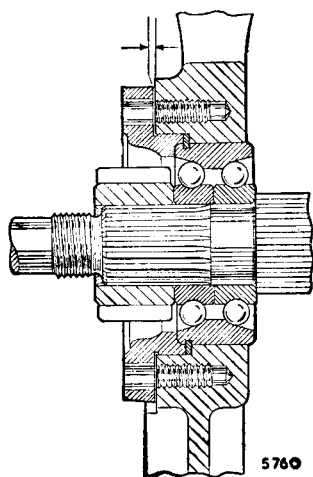

Fig. F.5
30. Refit the third motion shaft bearing retainer without any shims, lightly tighten the bolts and measure the gap, see Fig. F.5. Fit the shims required (see chart), ensure that they are fitted under the layshaft and reverse shaft locking plate, and finally tighten the bolts and turn over the tab washers.
31. Refer to item (10). Insert the oil suction pipe into the oil strainer assembly, and tighten first the external flange securing bolts and then the bracket retaining bolts. Take care not to displace the oil seal from the strainer.